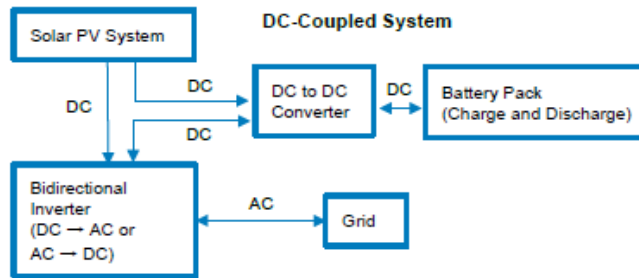

Figure 1: DC Coupled Co-located PV plus storage configuration
The DC coupled co-located 'PV plus Storage' plant means that the renewable energy generator (PV) and the storage are physically linked on the DC side and their output is fed into a single bi-directional inverter (converter) as shown in **Figure 1** below.